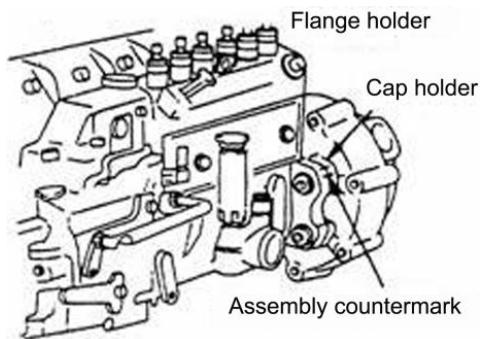

Fig.1.15
(1) Affirm if the "assemble countermark" is in conformity with the place of injection pump flange. See Fig1.15.